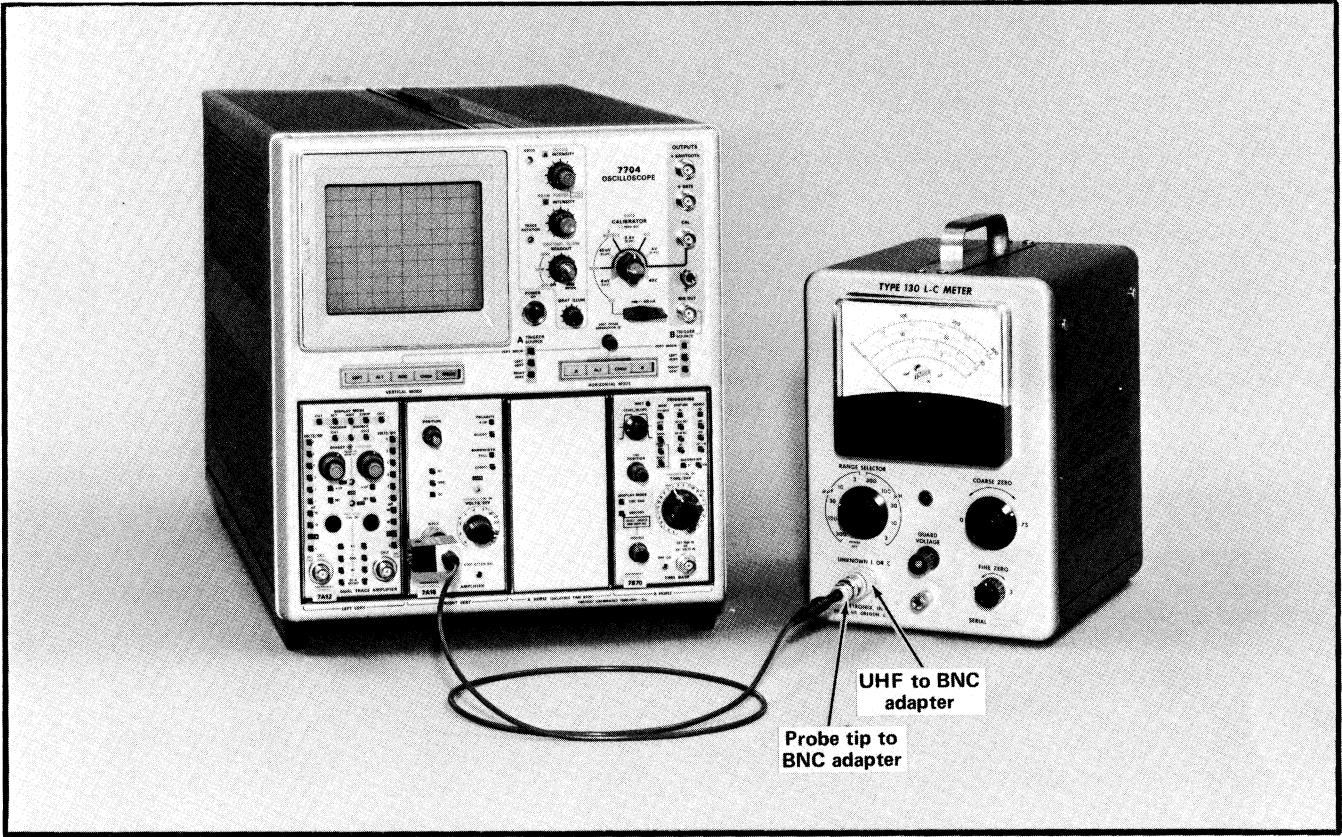

Fig. 4-2. Equipment setup for step 5.
- a. Equipment setup is shown in Fig. 4-2.